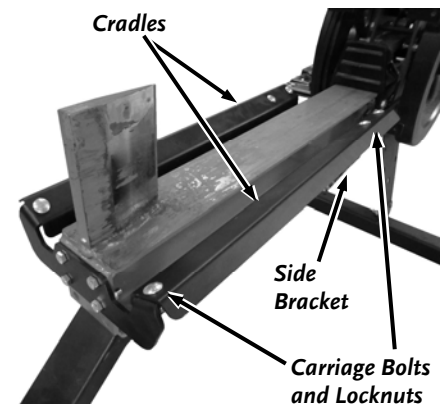

Figure 7
8. For easier alignment in the following step, slightly loosen the Side Bracket Hardware using a 9/16" Wrench (**Figure 7**).